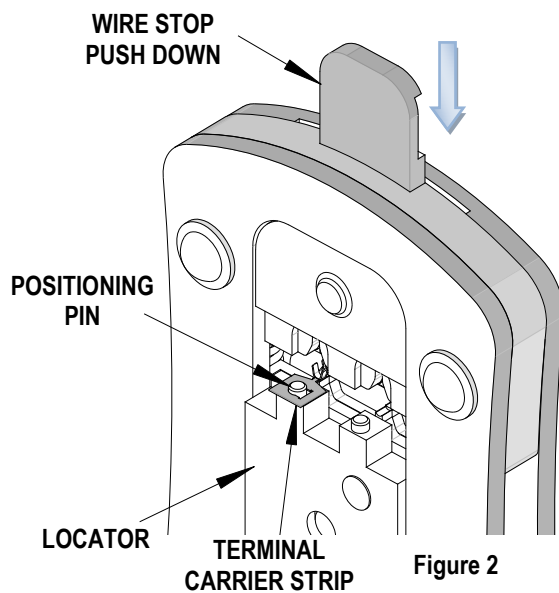

Figure 2
3. Place the properly stripped wire into the open terminal barrel. Push the wire into the tool until the end of the wire contacts the wire stop, making sure that all wire strands are inside of the conductor barrel. See Figures 2 and 3.